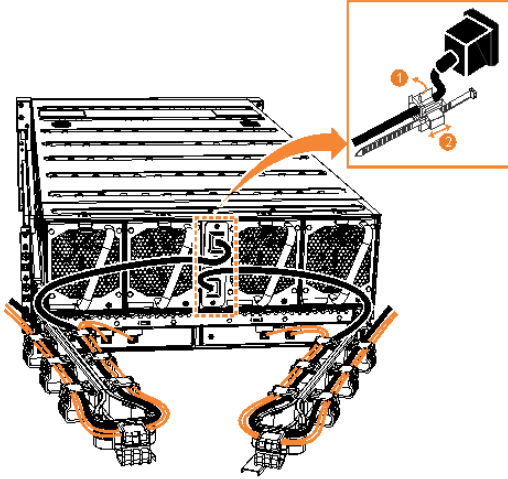

Figure 51. Secure power cables
2. Secure the power cables in the cable retainer at each power connector on the rear of the enclosure, as shown in Figure 51 on page 93. Also, ensure that each cable is installed along one of the cable management arms. The cable management arms also support the SAS cables.